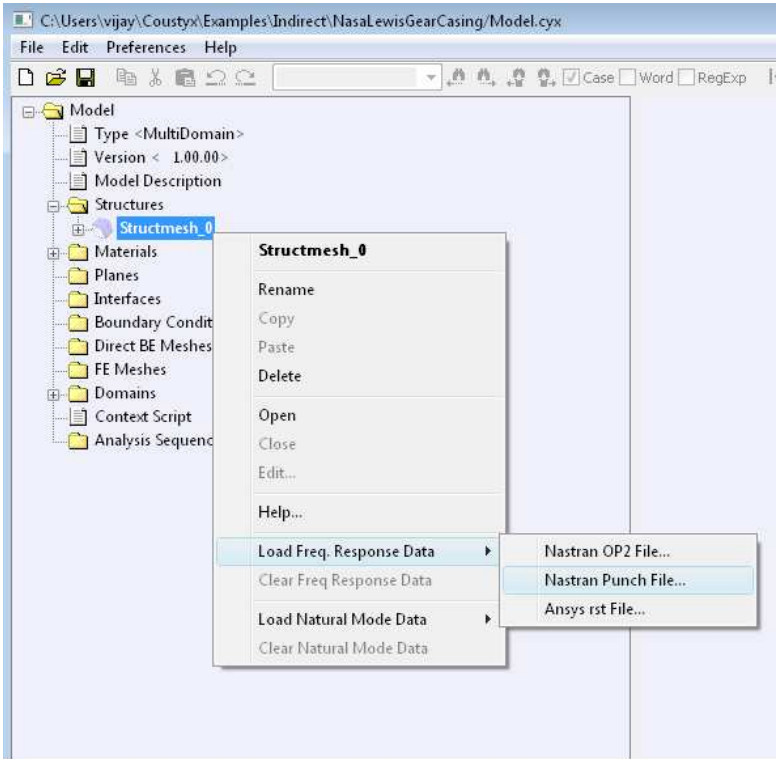
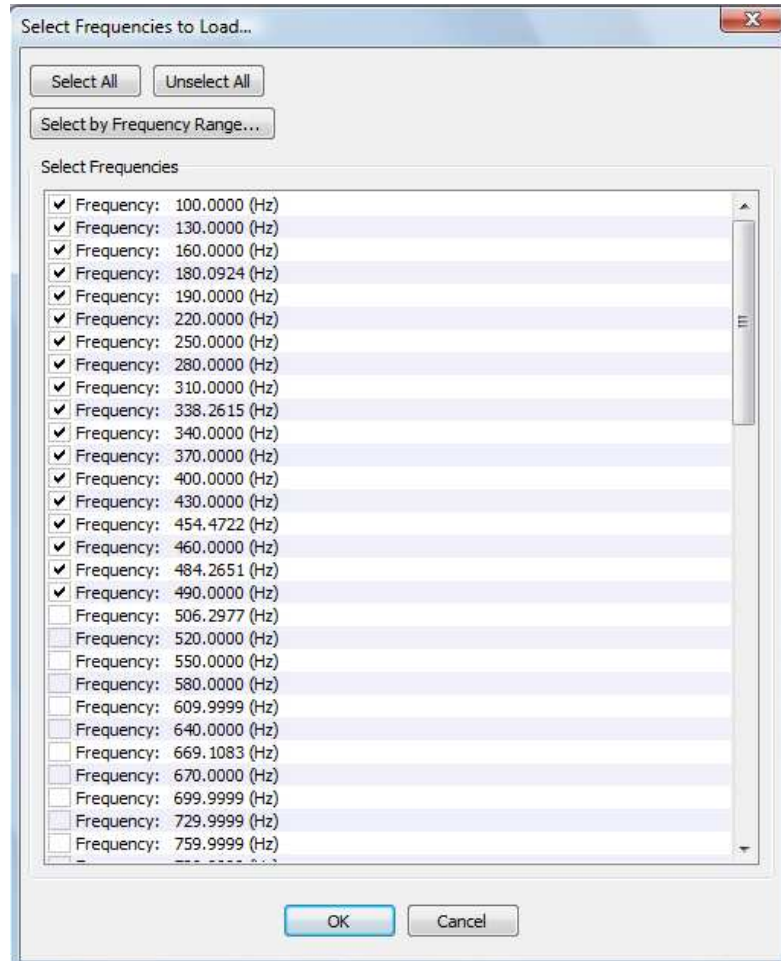

Figure 5.2: Loading frequency response data into *Coustyx* model.
Figure 5.3: Select frequencies to load dialog box.
- To load frequency response data from FE analysis: Click on the imported structure *<Structure Mesh Name>*, right-click on it and select **Load Freq Response Data** → **Nastran Punch File** (see Figure 5.2). The other supported data formats are **Nastran OP2 File**, **Ansys rst File**, **Ansys rfrq File**, **I-DEAS Universal File**. Select desired frequencies to load. Only these frequencies from the data read are loaded into the model. The **Natural Mode Data** could be loaded in a similar fashion.
Right-click on *<Structure Mesh Name>* and select the frequency response data from any of the file format options through **Load Freq. Response Data** (refer to Figure 5.2). If the data is read successfully, a new dialog box with a list of frequencies available in the data appears. See Figure 5.3. The user can select what frequencies to load into the model. Use **Select All**, **Unselect All**, or **Select by Frequency Range...** buttons to choose the frequencies of interest. To clear the data already uploaded select **Clear Freq. Response Data** on the right-click menu. Run forced response FE analysis on the structure in the desired frequency range to generate the frequency response data. The frequency response data (or structure velocity) could later be used as a boundary excitation on the BE model (which is generated from the structure FE mesh). More details on how to define and apply boundary conditions in *Coustyx* are provided in Chapter 6. The following are the supported frequency response data formats.